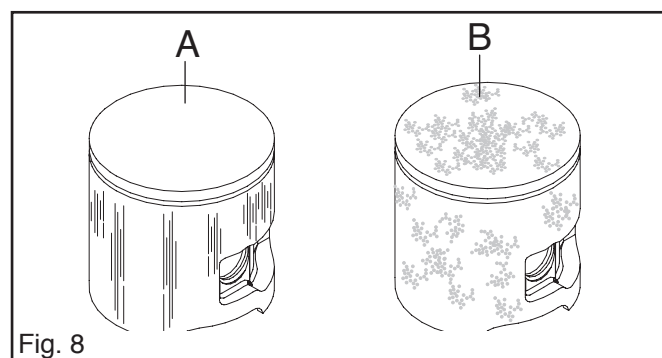

Fig. 8
Score marks in the piston, fig. 8 (A)
Carbon build-up, fig. 8 (B)